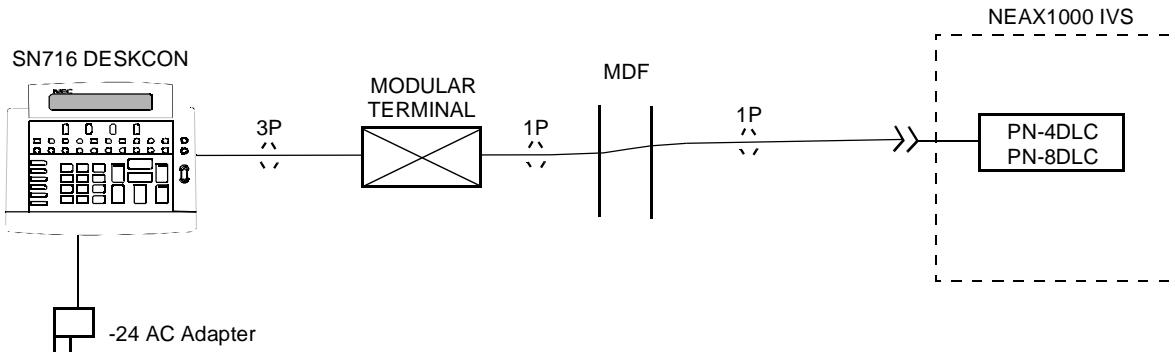

**Figure 007-1 Assembly of SN716 DESKCON**
- (a) Installation of SN716 DESKCON (see Figure 007-1)